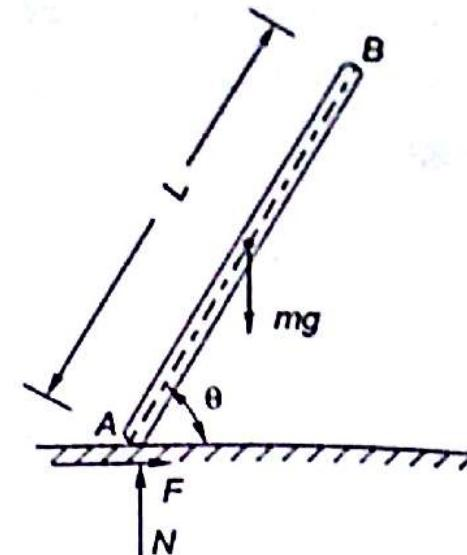

Fig. 17.12
- 17.4** A uniform rod of mass m and length L as shown in Fig. 17.12 is released from rest when angle $\theta = 60^\circ$. Assuming that the friction force between end A of the rod and the horizontal surface is sufficient after release of rod, determine (i) normal reaction and force of friction at end A, (ii) minimum value of coefficient of friction μ for the motion of rod.